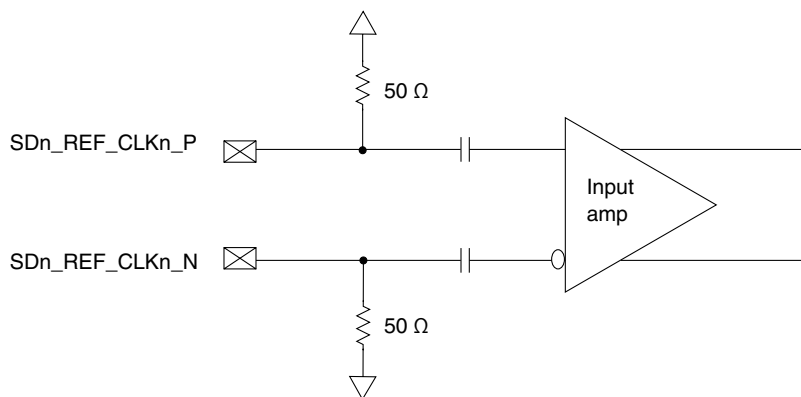

Figure 30. Receiver of SerDes reference clocks
- The $SDn_REF_CLKn_P$ and $SDn_REF_CLKn_N$ are internally AC-coupled differential inputs as shown in Figure 30. Each differential clock input ($SDn_REF_CLKn_P$ or $SDn_REF_CLKn_N$) has on-chip 50- Ω termination to $SGNDn$ followed by on-chip AC-coupling.
- For an external DC-coupled connection, as described in Figure 30, the maximum average current requirements set the requirement for average voltage (common mode voltage) as between 100 mV and 400 mV.